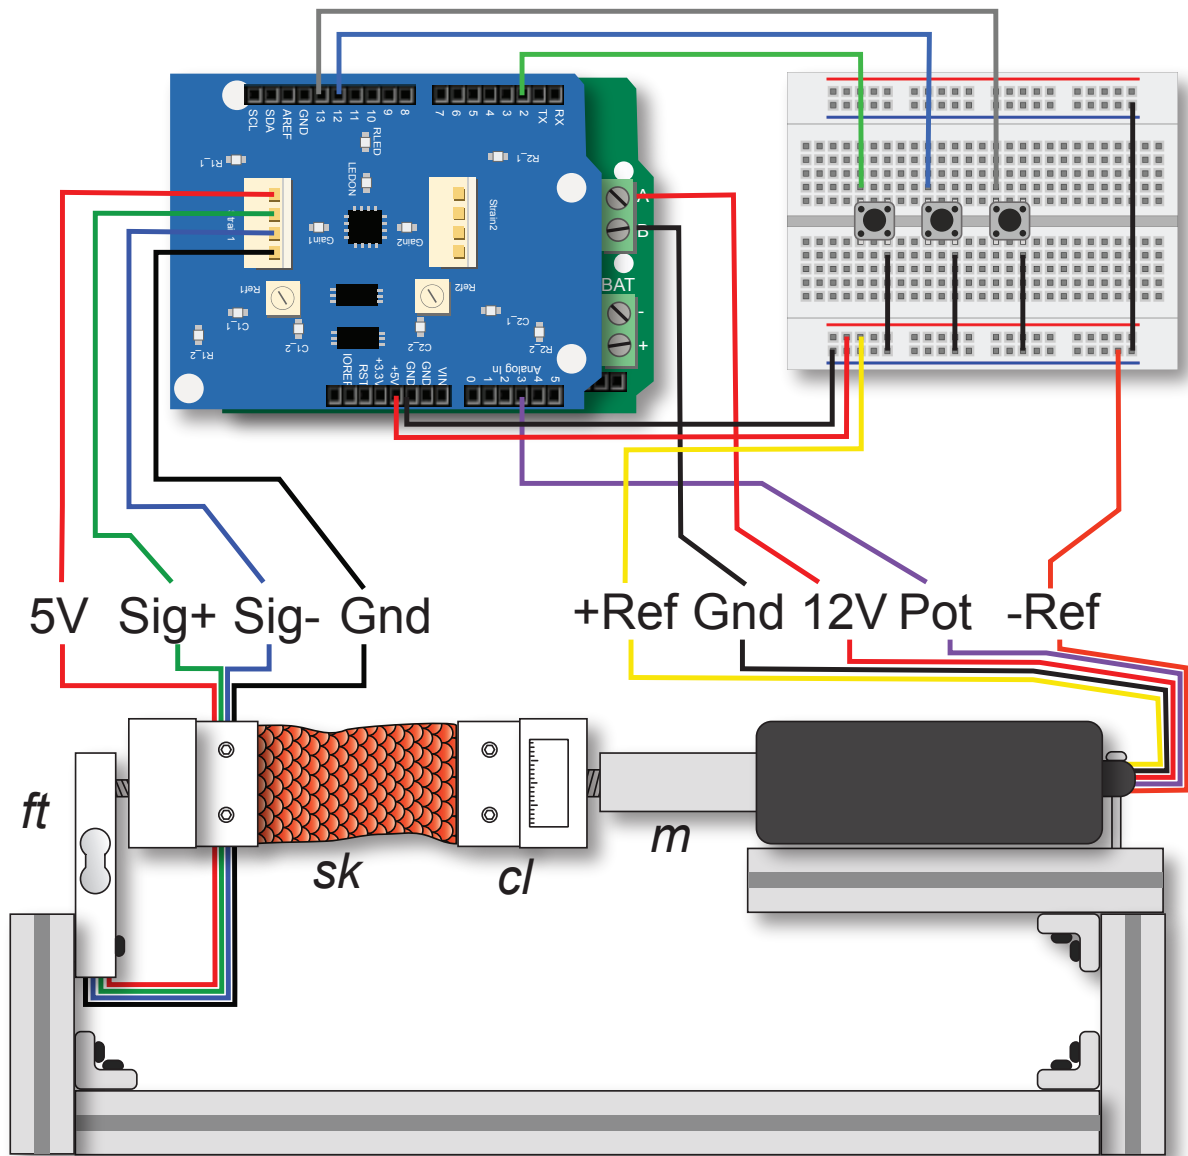
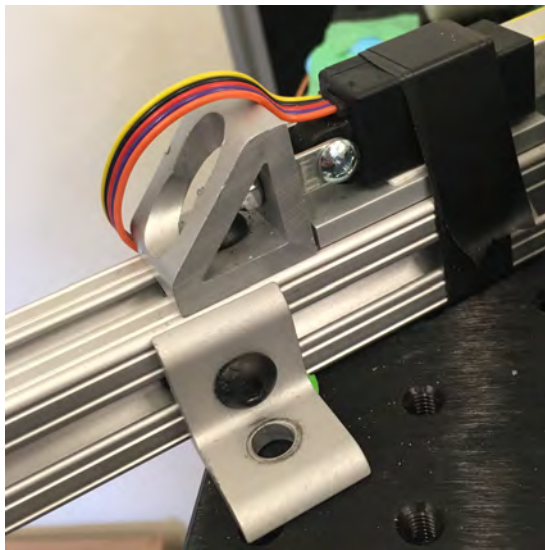

Figure 7: Schematic diagram of an MTU prototype.
Figure 8: Mounting a small DC linear actuator from Actuatorix to 80/20 framing and a metric breadboard.
We found that securing the large Firgelli motors was easiest using their MB6 bracket bolted directly to a breadboard. The smaller Actuonix motors were mounted to 1"x1" 80/20 pieces using inside-corner brackets (Figure 8). The load cells were mounted to inside-corner brackets by thread posts screwed into the load cell and tapped holes in the bracket (Figure 7). The bracket-load cell unit was then secured to a piece of 80/20 and aligned with the motor. A clamp was then secured to the motor end and load cell via threaded posts.
Wiring the prototype as presented in Figure 7 was relatively simple. The following instructions assume all hardware is in place and mounted, including the framing, motor, and load cell. When wiring the prototype, it must be kept in mind that several pins on the Arduino are dedicated to the motor-control (digital 3, 8, and 11) and amplifier shields (analog 0 and 1).
- 8. Wire buttons to Arduino-shield stack. Wires or jumpers must be connected to the leg on the button that extends from the opposite side and corner Figure 7: